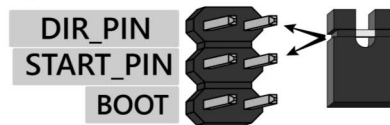

Fig. 5. Jumper contacts.
- Set the jumpers to the required position (fig.5.).